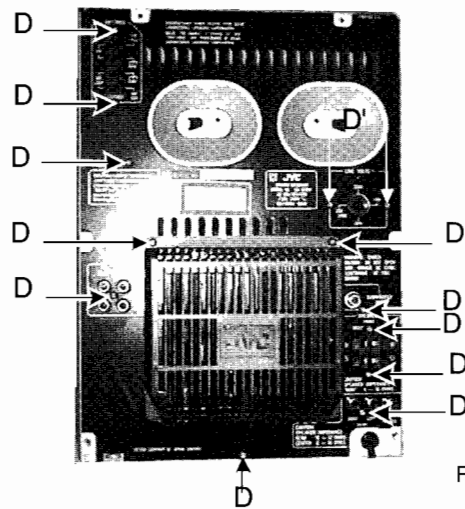

Fig.5
- 1.Remove 11 screws(D)fasteing rear side and remove the heat sink cover(Fig.5).